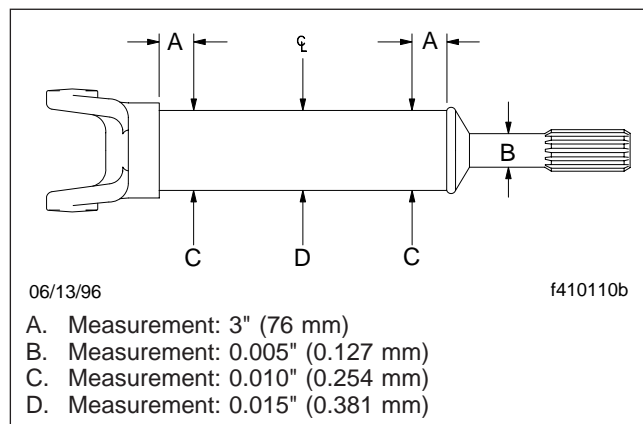

Fig. 3, Driveshaft Runout Specifications
- Check the driveshaft tubes for dents, bends, twists, or other damage. If any tube appears to be damaged, remove the driveshaft and check the runout on the tube. If the tube is not straight (and cannot be straightened) within 0.005 inch (0.127 mm) on the slip-joint seal surface of the splined shaft, 0.010 inch (0.254 mm) on the tube 3 inches (76 mm) from the front and rear welds, and 0.015 inch (0.381 mm) at the center of the tube, replace the tube. See **Fig. 3**.